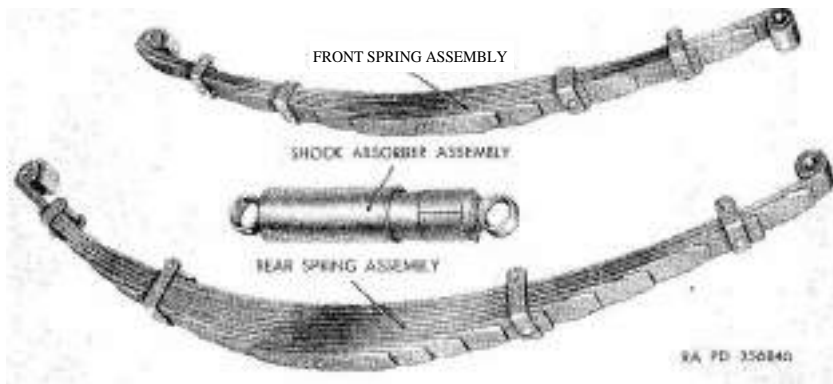

Figure 173. Spring and shock absorber assemblies.
a. Springs (fig. 173) . The springs are semielliptic, consisting of a number of leaves held together by a center bolt and spring leaf clips. Attachment of the springs to the axle housings is accomplished with U bolt-type clips. Hardened steel bolts, operating in bronze bushing-type bearings, which are pressed into the eyes of the top spring leaf, attach the springs to the frame brackets and shackles. Ample capacity to absorb the braking and driving strains is provided by the additional wrap of the second spring leaf around the front end of each spring.
b. Shock Absorbers (fig. 173) . Hydraulic, telescopic, cylindrical-type, triple-acting shock absorbers are provided at the front and rear axles. The shock absorbers are attached to the axles and frame brackets by rubber bushing-type bearings.
- (1) The following procedures are based on the assumption that the front spring assemblies (*fig. 173*) are removed from the vehicle. Refer to TM 9-840 for information pertaining to the removal and installation of front springs.
- (2) The inspection of the spring bolts and spring shackles is covered in paragraph 197c and *d.* Refer to TM 9-840 for information relative to the removal, installation, and adjustment of the spring bolts and spring shackles.
- (1) The following procedures are based on the assumption that the rear spring assemblies (fig. 173) are removed from the vehicle. Refer to TM 9-840 for information pertaining to the removal and installation of rear springs.
- (2) Inspection of the spring bolts and spring shackles is covered in paragraph 200c and *d*. Refer to TM 9-840 for information pertaining to the removal, installation, and adjustment of spring bolts and spring shackles.